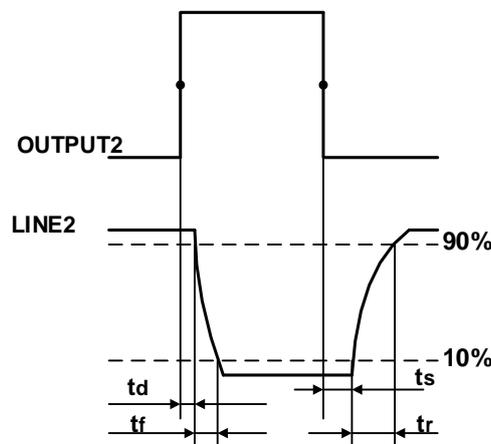

Figure 7-26 Output Circuit Parameter of Line2
- Rising time delay =tr+td: <20μs (0°C~45°C) (parameter description as shown in Figure 7-26)
- Falling time delay =ts+tf: <20μs (0°C~45°C) (parameter description as shown in Figure 7-26)